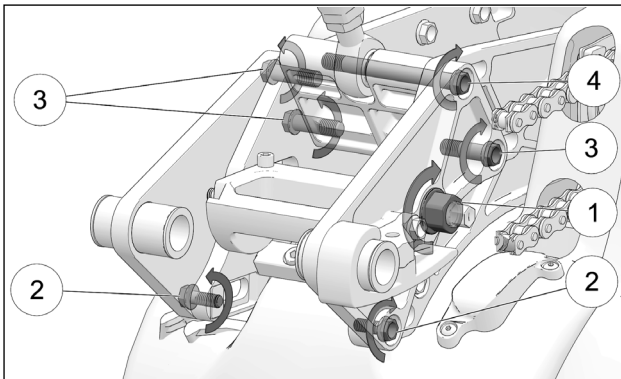

Figure 37
- Tighten in sequence: the eccentric bolt nut (1) to 61 Nm (45 lb-ft); the four M10 bolts (3-4) of the Strut block to 41 Nm (30 lb-ft); and the two M8 bolts (2) at the front of the Bike Mount to 25 Nm (18 lb-ft). See Figure 37.